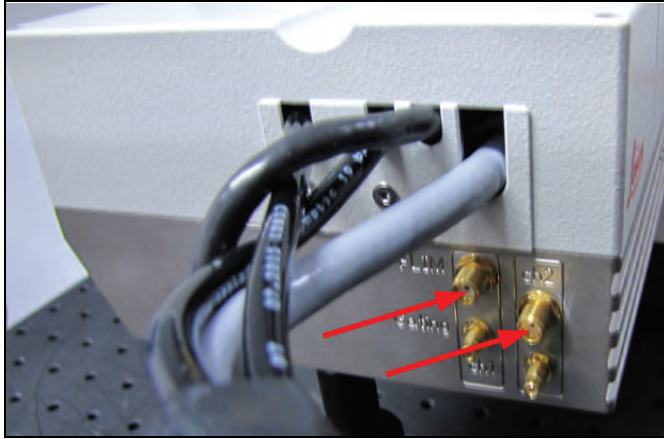

Figure 194: Terminals for the FLIM signal cable on HyD RLD, which are connected to the CFD input connector on the PHR 800 router
4. Connect the HyD RLD SMD signal cable (**Figure 194**) to the PHR 800 router's CFD inputs.